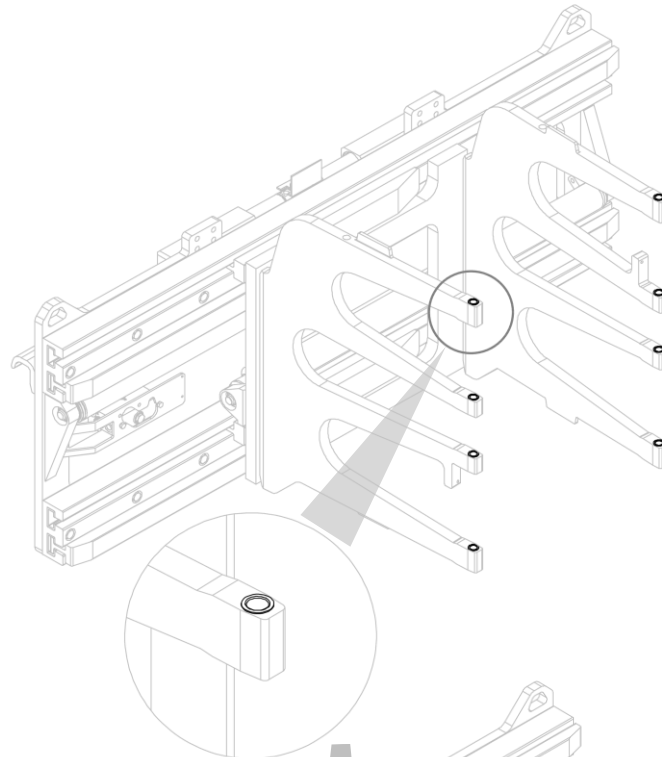
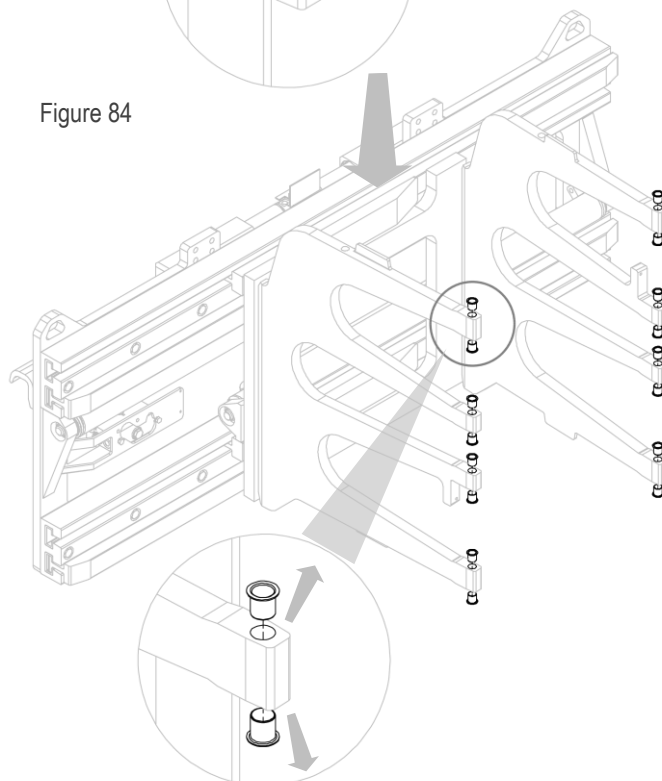

Figure 84
Figure 85
3. Remove the bushes from their housings (see *Figure 84* and *Figure 85*).